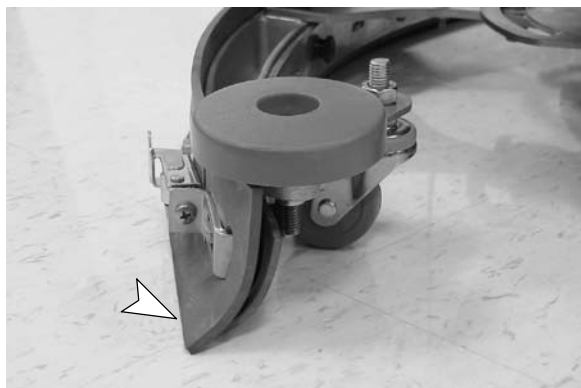

FIG. 41
3. During machine operation, with the casters properly adjusted, the squeegee blades should deflect as shown (Figure 41).